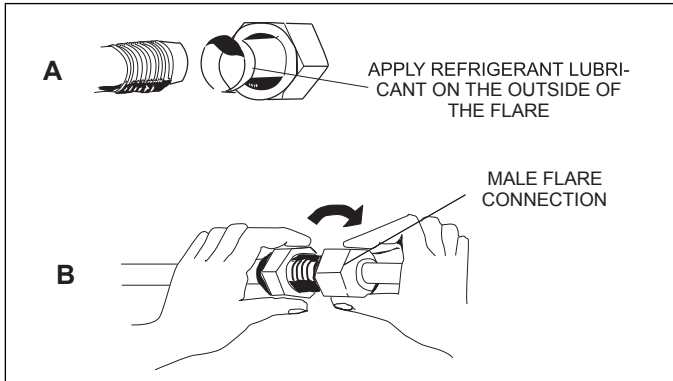

Figure 24. Making Connections (Male to Female Connection)
15. Align the threaded connections with the flared refrigerant lines. Tighten the flare nuts lightly at first to obtain a smooth match as illustrated in “Figure 24. Making Connections (Male to Female Connection)”.